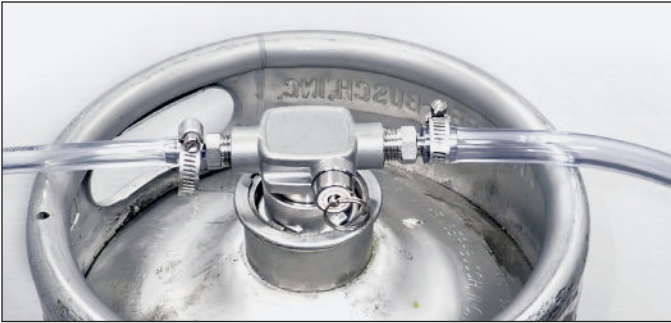

FIG. 10. Installed and connected taper. Be sure the hose clamps are tightened to prevent leaks.
- Attach the tapper to the keg. See fig. 10.